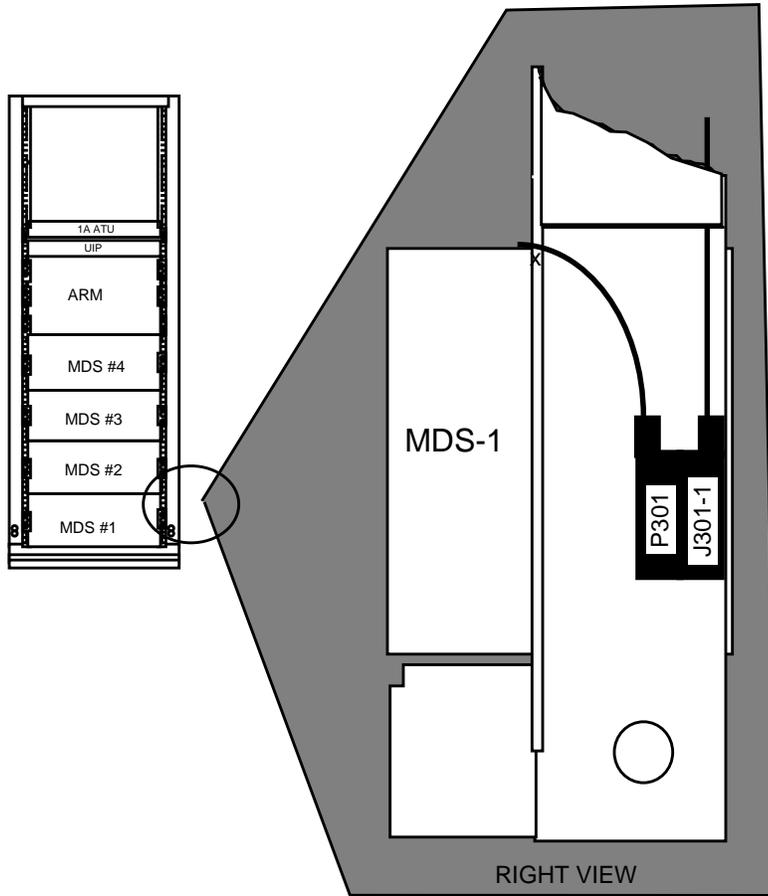

Figure 3-17. TAP Connection
Step 1: Refer to Figures 3-17 and 3-18 and connect the TAP Interface cable assembly as follows in the right side cable duct: